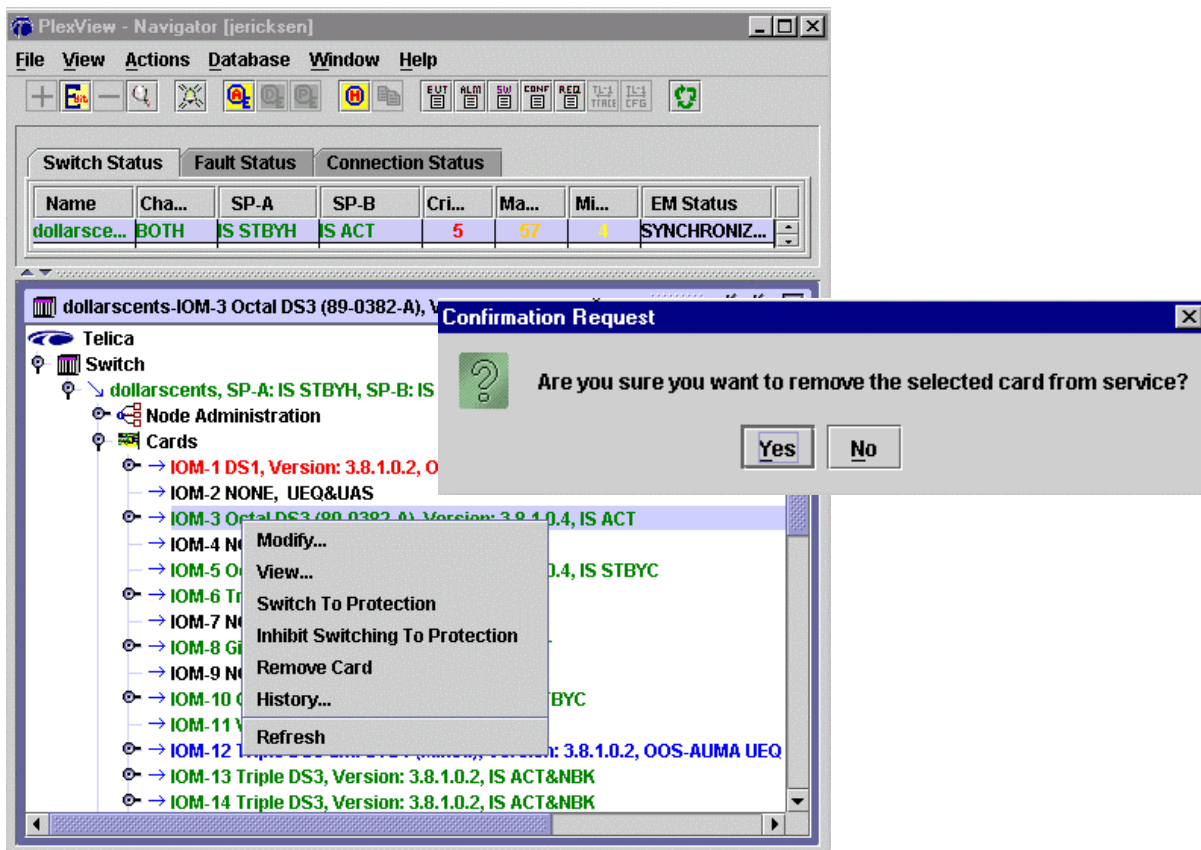

**Figure 1. Removing a Module**
11. Double-click the switch to select it for the main panel and then double-click *Cards*. Right-click the desired IOM and then select *Remove Card*. A confirmation screen will appear. Select Yes to remove the module. See Figure 1.